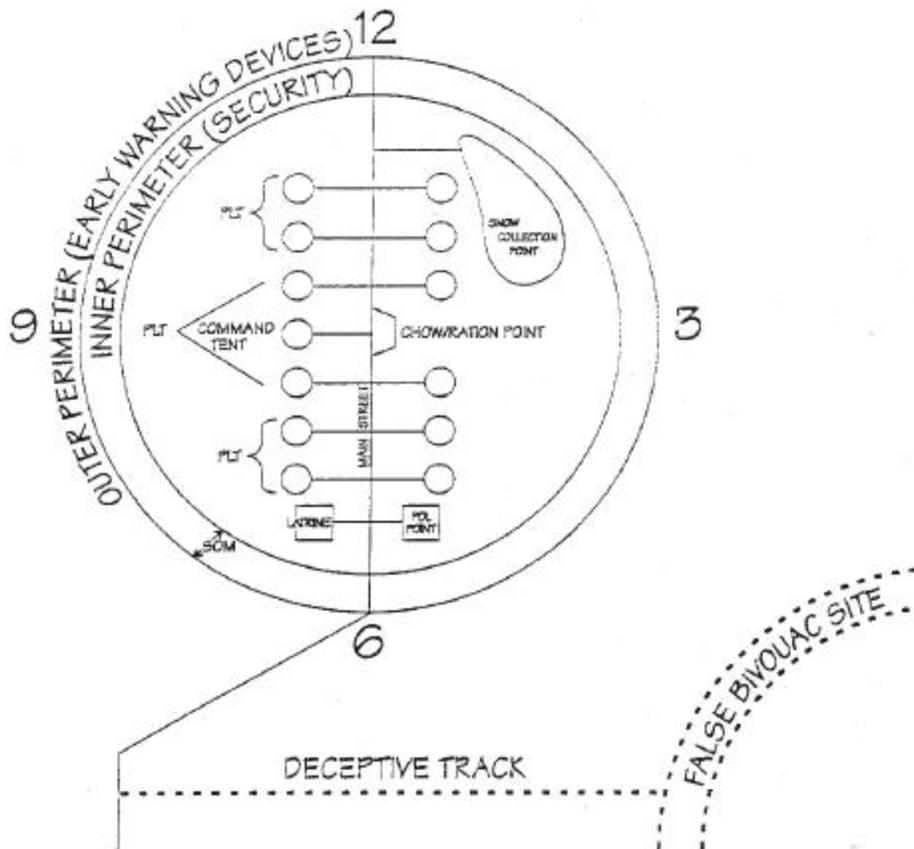

Figure 6-1 Company Bivouac Track Plan
1. Track plans (see figures 6-1, and 6-2) should be established before anyone enters the site. Normally, the incoming track will be extended well beyond the point where it enters the bivouac, and may lead to a dummy bivouac site (see above). Branching off from the incoming track, preferably at an acute angle to the direction of the enemy, is the bivouac site track, or "main street". This is the single track that enters the actual bivouac site perimeter. Minor tracks are established leading off of main street to sub-unit areas where tents are located. Both inner and outer perimeter tracks are also established.